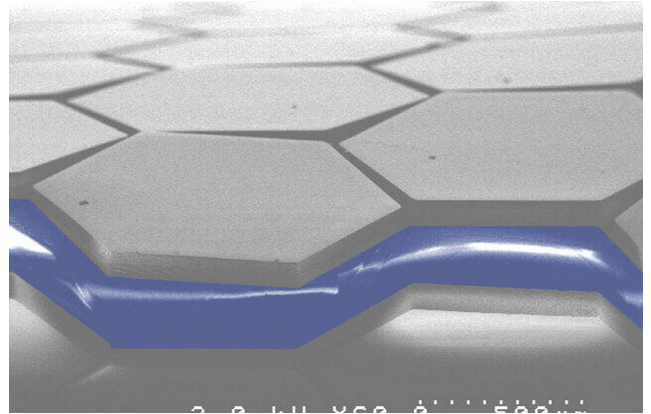

Fig. 5 Example of plasma dicing after grind, with underlying tape shades in blue
- Non-rectangular die shapes can also be created (i.e. defined by mask, not blade cut) - see Fig 5 overleaf